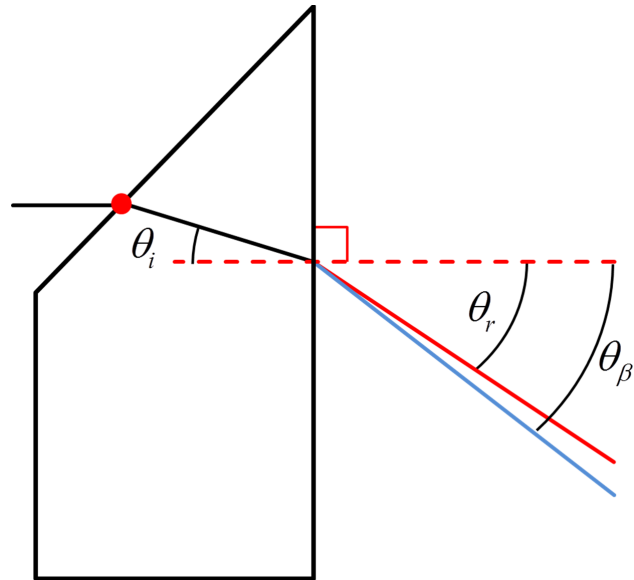

Figure 7: Dispersion Angles
1. Use the protractor to measure the following angles (see Figure 7):